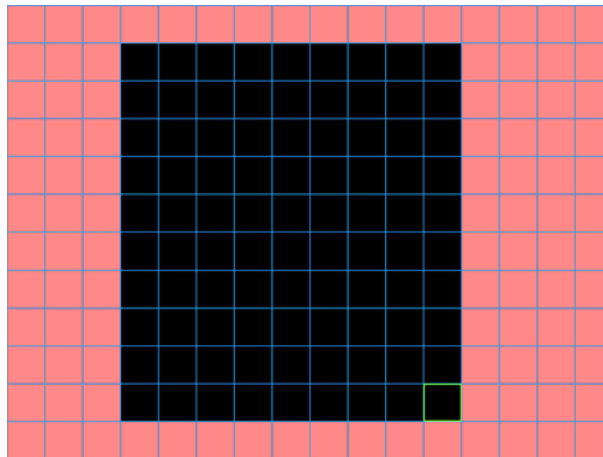

Figure 4.5 Set Regions
**Region:** Click **[Set]** button and setup Regions is displayed, which are divided into PA22X18. Red regions are dynamic detection defense region and white region is non-defense area, as shown in Figure 4.5. Press the left mouse button and select the setup region. (All of the selected regions are surveillance regions by default) Right-click the mouse button and then return to the **Motion Detect** interface.